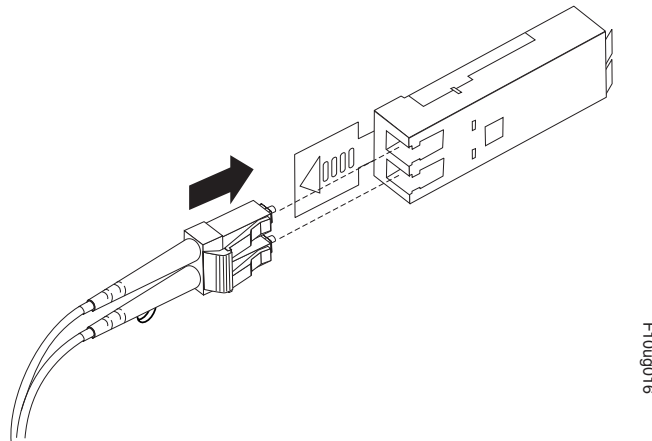

Figure 41. Inserting an LC-LC fibre-channel cable into an SFP module
4. Carefully insert this end of the LC-LC cable into an SFP module that is installed in the DS4100. The cable connector is keyed to ensure it is inserted into the SFP module correctly. Holding the connector, push in the cable until it clicks into place, as shown in Figure 41.